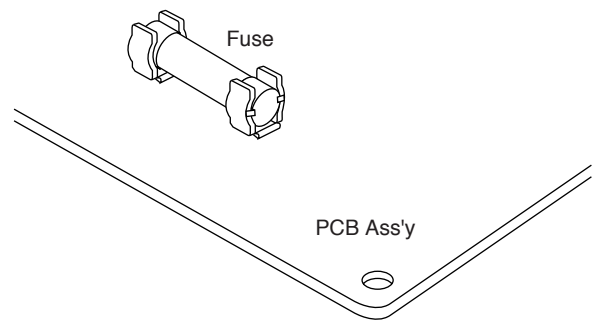

Fig. 5
- Remove the PCB Ass'y from the electrical component box. Then pull out the fuse from the PCB Ass'y. (Fig. 5)